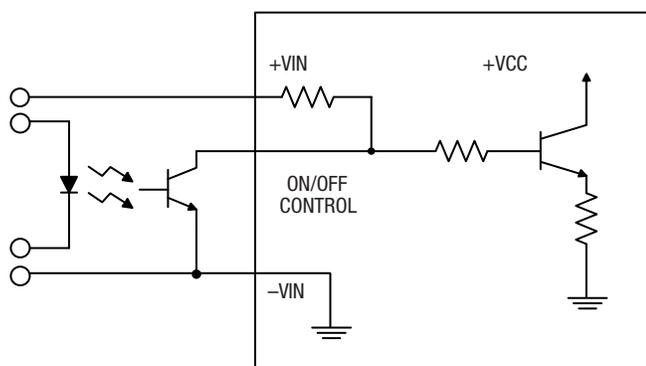

Figure 3. Driving the Negative Logic On/Off Control Pin
**Negative (“N” suffix):** Negative-logic devices are off when pin 2 is left open (or pulled high, applying +2.4V to 20V), and on when pin 2 is pulled low (-0.1V to 0.8V) with respect to -Input as shown in Figure 3.
**Positive (“P” suffix):** Positive-logic devices are on when pin 2 is left open (or pulled high, applying +2.4V to +20V), and off when pin 2 is pulled low (-0.1V to 0.8V) with respect to -Input as shown in Figure 3.